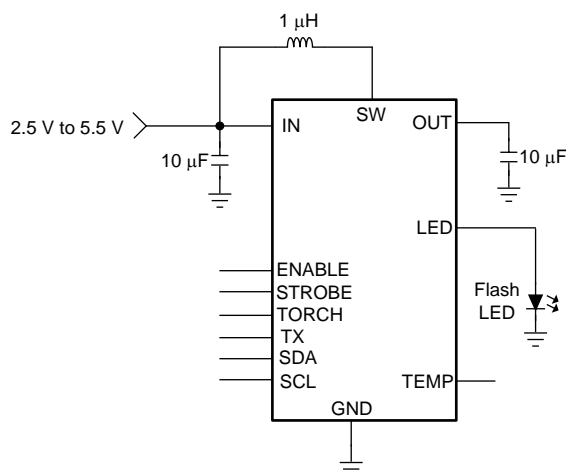

Figure 41. LM3556 Typical Application
Choosing the correct size and type of input capacitor helps minimize the voltage ripple caused by the switching of the LM3556 device's boost converter and reduces noise on the boost converter's input terminal that can feed through and disrupt internal analog signals. In the Figure 41 a 10- μF ceramic input capacitor works well. It is important to place the input capacitor as close as possible to the LM3556's input (IN) pin. This reduces the series resistance and inductance that can inject noise into the device due to the input switching currents. Table 16 lists various input capacitors recommended for use with the LM3556.